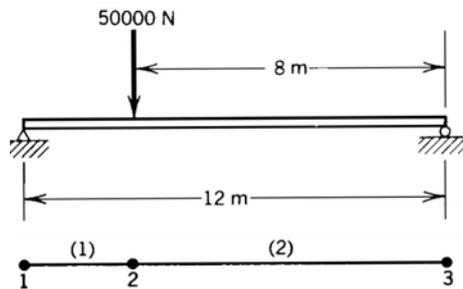

Figure 7
4. Calculate the nodal displacements and the internal member forces for the beam loadings shown in Figure 7. Construct the shear force and bending moment diagram. Check the accuracy of your solution by considering the equilibrium. Use the element and nodes shown. Use $E=20 \times 10^6 \text{ N/cm}^2$ and $I=8000 \text{ cm}^2$.